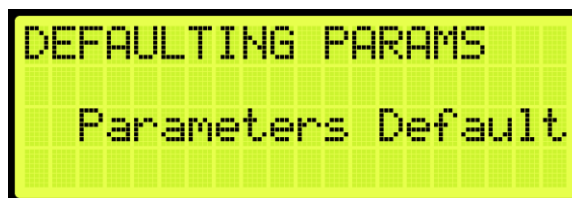

Figure 477: DEFAULTING PARAMS Menu – Parameters Defaulted
6. When the system has completed defaulting all parameters, the DEFAULTING PARAMS menu displays Parameters Defaulted (See Figure 477).